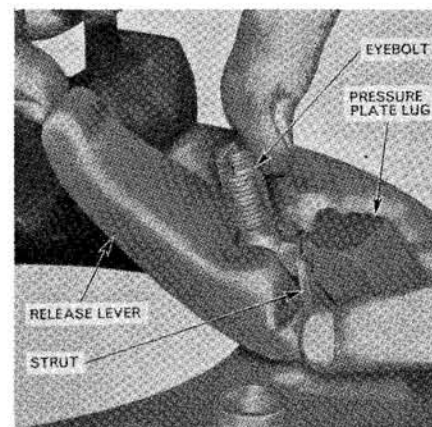
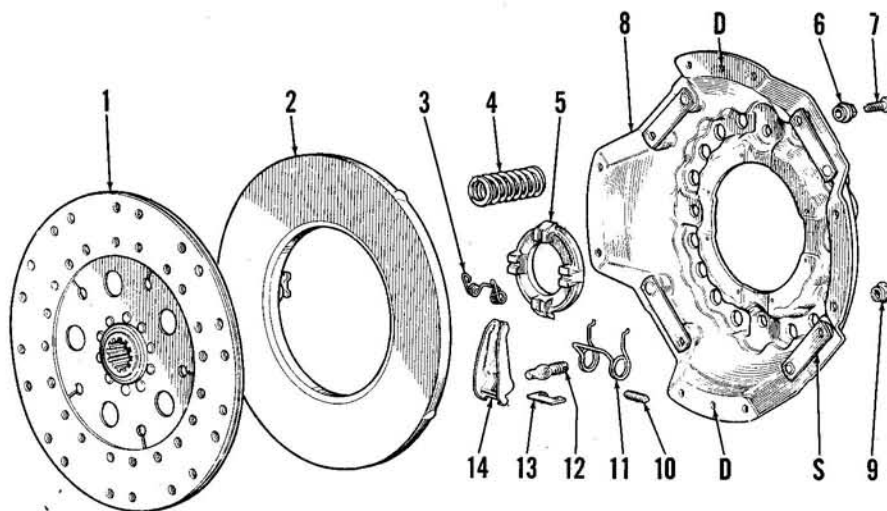

Fig. 109—Assembling release lever, strut, lever pin and eyebolt to clutch pressure plate.
Fig. 108—Exploded view of 13-inch single clutch assembly. Refer also to Figs. 109 and 110.
a 0.33 thick 13 inch diameter solid disc (Ford part No. DDN-7550-B) can be used with early type 13 inch cover and pressure plate assembly (Ford part No. DDN-7563-B) which can be identified by drive straps (S—Fig. 108) of two laminations (layers). A 0.52 thick disc (Ford part No. DDN-7550-D) is used with later type cover and pressure plate assembly (Ford part No. DDN-7563-C) which can be identified by drive straps (S) made of three laminations.
Remove the release lever plate (5—Fig. 108) and the retaining springs (3). Using a punch, drive edge of ferrules (6) back away from drive strap cap screws (7), then remove the cap screws. Unscrew and remove adjusting nuts (9) from eyebolts (12); these nuts are staked and may be hard to turn. Evenly loosen the four short cover retaining cap screws until cover rises against heads of the long cap screws, then remove the four short cap screws and evenly loosen the long cap screws until all spring pressure is released. Remove cover from pressure plate. Remove the sixteen pressure springs. Holding release lever inner ends upward against eyebolts, move the struts until eyebolts and release levers can be removed from pressure plate. Withdraw the eyebolts from release levers, then remove the pivot pins.
To reassemble, proceed as follows: Place three 0.329-0.331 thick spacers approximately 3½ inches long evenly around friction surface of engine flywheel. Place pressure plate on top of the spacers. Install pivot pins (10) through eyebolts (12) and insert threaded ends of eyebolts through release levers (14). Refer to Fig. 109, place struts under lugs on pressure plate and while holding inner ends of release levers against eyebolts, insert plain ends of eyebolts in bores of pressure plate and outer ends of release levers under the struts. Place the pressure springs on bosses of pressure plate. Install anti-rattle springs (11—Fig. 108) in clutch cover, then place cover down over the springs, release levers and pressure plate so that anti-rattle springs are over the release levers. Rotate the assembly so that dowel holes in clutch cover are properly aligned with correct size dowel pins in flywheel and move the spacers so that they are under each release arm. Also adequately support the pressure plate. Install the four 1½ inch long cap screws at alternate bolt holes and tighten them evenly until they bottom in flywheel. Install four of the cover retaining cap screws in the remaining bolt holes and tighten them evenly until cover is pulled down against flywheel. Use washers if necessary. Be sure that dowel pins in flywheel and eyebolts in levers enter proper holes in cover as cover is being pulled down. Remove the four long cap screws, install the remaining cover retaining cap screws and tighten all eight cap screws to a torque of 12-15 Ft.-Lbs.